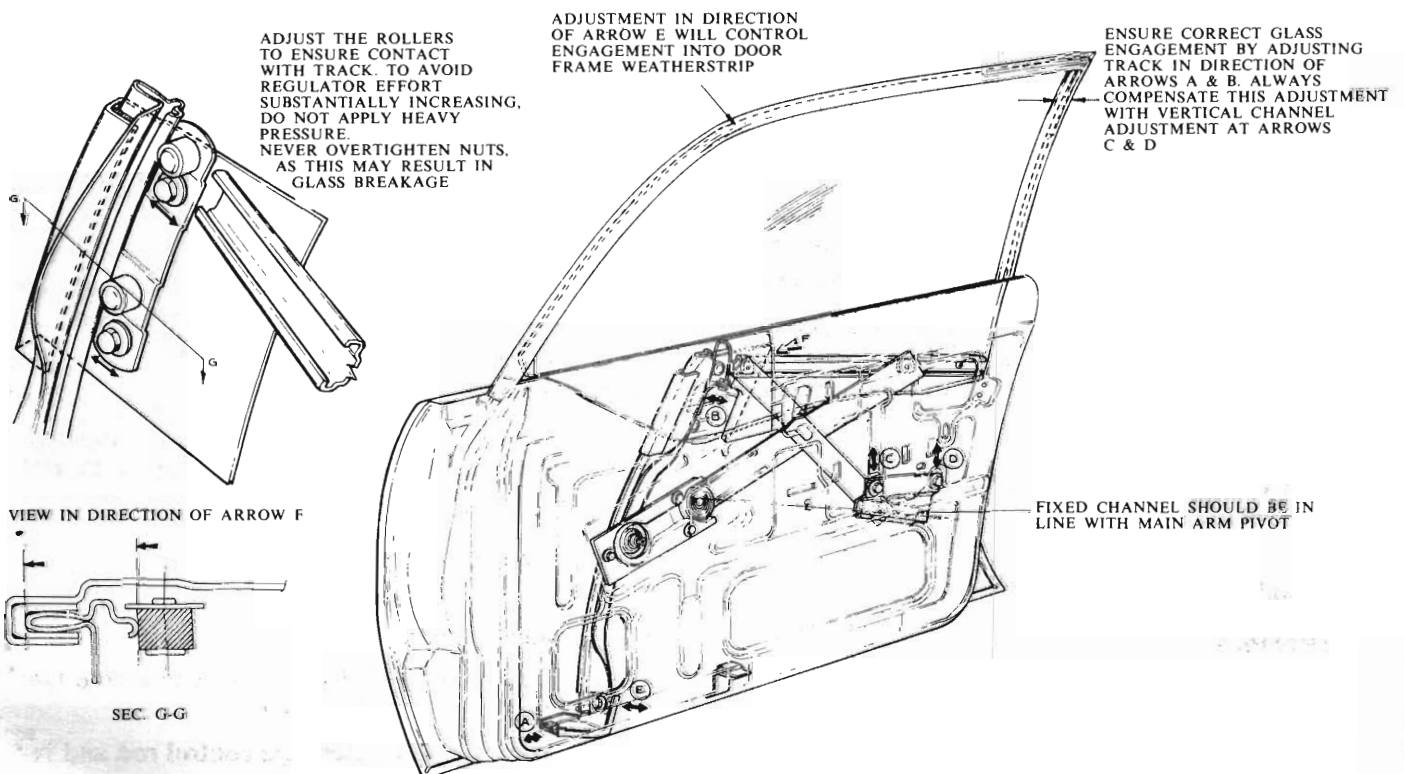

Fig. 7 - Ventless Door Glass Adjustment
**To Remove (Fig. 7)**
- (1) Remove the inside door handles, arm rest, trim panel and weather curtain.
- (2) Remove the door belt line weatherstrips.
- (3) Lower the glass, remove the two screws attaching the glass to the stabilizer and the screw attaching the glass to the lift channel and remove the glass from the door opening.
(Refer Fig. 7)
- (3) Raise glass completely, loosen the front track bolt to door bracket and move the glass fore or aft (in direction of letters "A" and "B" in Fig. 7) and ensure correct glass engagement with door glass opening. Always compensate this adjustment with vertical channel adjustment at arrows "C" and "D" in Fig. 7.
- (4) Side adjustment of the front glass track (at arrow "E" Fig. 7) will control engagement of glass into door frame weatherstrip.